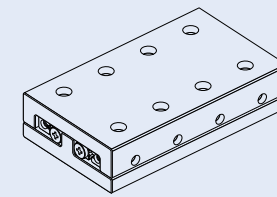

Fig. 17.5
- Slide the table to the center of the stroke and tighten the end screws. (See Fig.17.5)